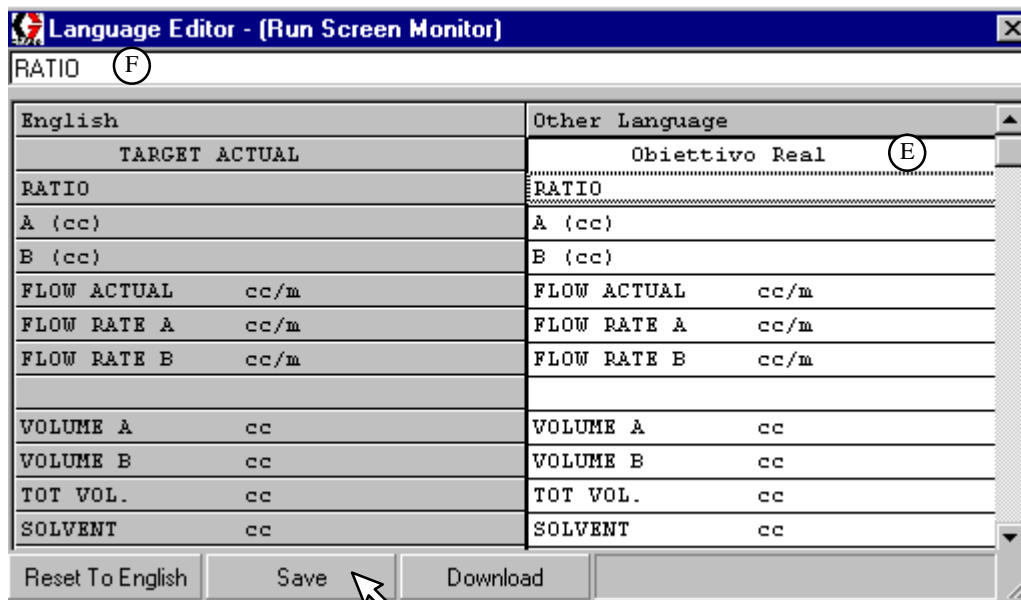

Fig. 13.63
4. Type the translation over the text in the text bar. Press ENTER to enter the text into the Other Language column (E) and go to the next line of text (F). See Fig. 13.63.